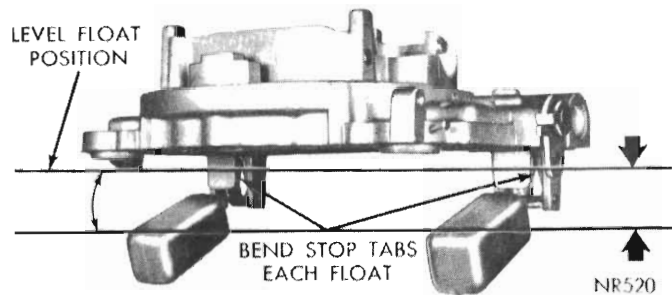

Fig. 9—Checking Float Drop
(1) With air horn inverted (upside down) place air horn in upright position and measure the distance floats move from inverted to upright position. This measurement should be  $\frac{1}{2}$  inch (Fig. 9). Air horn gasket installed. If an adjustment is necessary, bend stop tabs on float levers until correct drop setting has been obtained. Bend tab toward needle seat to lessen drop, or away from seat to increase drop.
(2) After floats have been checked and adjusted, continue to assemble carburettor as follows: